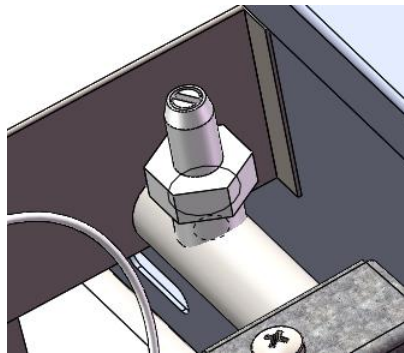

Fig.1
16. Turn over gas griddle , and needle type pressure joint screw arbor (Fig.1), then slip rubber tube of pressure gauge over needle type pressure joint;